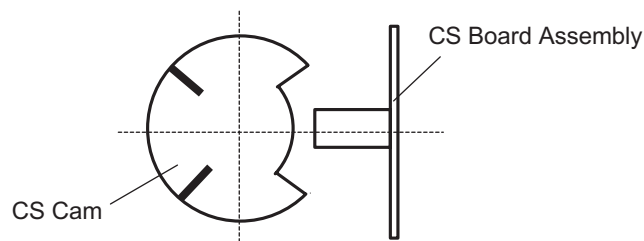

Figure 3-31. Removing The CS Cam
- **When removing the CS board assembly, note the direction in which the cutout part of the cam faces. Set the cam as shown in Figure 3-31 so that it is not damaged by the photo-coupler in the CS board assembly.**